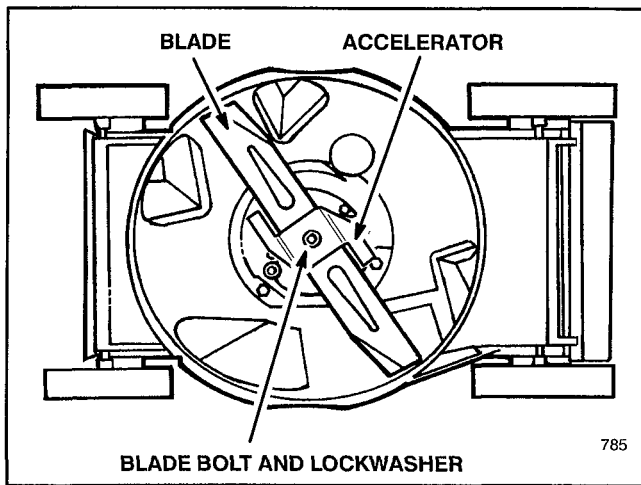

Figure 15
3. Tip mower on its right side (Fig. 15). Avoid rotating blade as starting problems may result.
5. REMOVING BLADE—Grasp end of blade using a rag or thickly padded glove. Remove blade bolt, lockwasher, accelerator, and blade (Fig. 15).